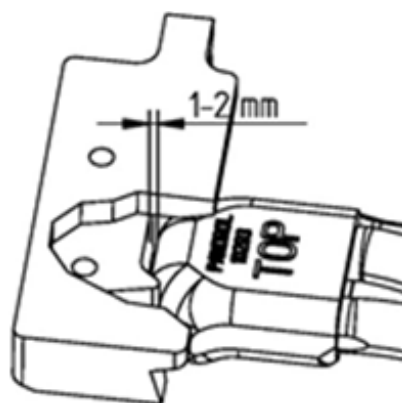

Fig 48.
5. Make sure there is a space of 1-2 mm between the clips and the claw when positioning the de-clipping pads for an optimal function ("Fig 48.").
6. Press and hold the run button (2) to drive the declipping tool motion.
7. Simultaneously press hold the activation button (3) and the run button (2) to return the arms to their original position.